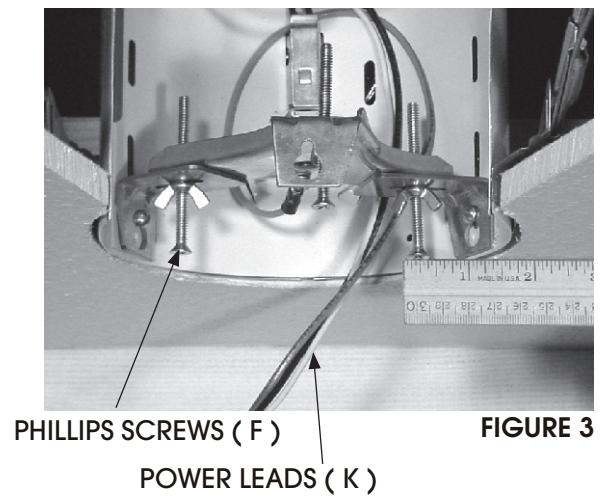

FIGURE 3
- STEP 8** Adjust phillips screws (F) on mounting bracket (C) until flush with ceiling (SEE FIGURE 3) tighten wingnut (E) to secure in place.